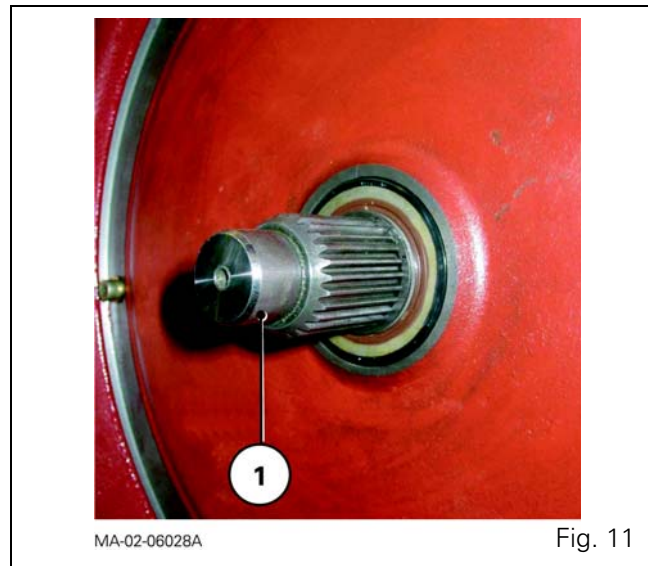

Fig. 11
27. Lightly lubricate the splines of main shaft (1) (Fig. 11) with grease (type GN + Molykote) or equivalent.